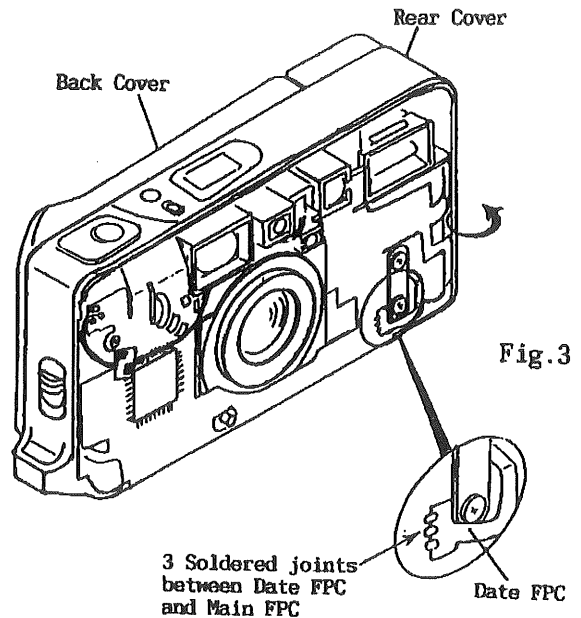
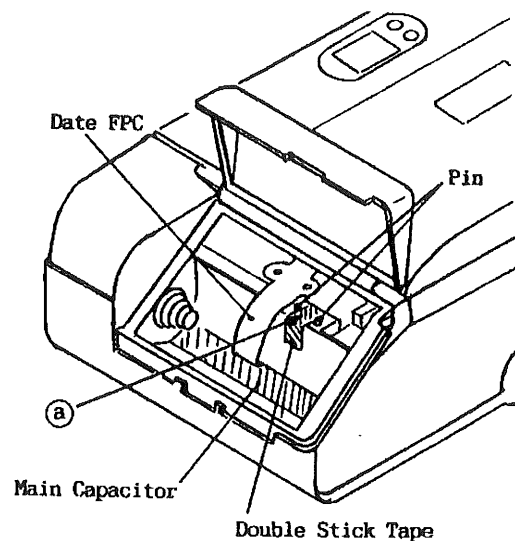

Fig.3
Fig.5
- 1) Unsolder the 3 soldered joints between the Date FPC and the Main FPC. (See Fig.3)
- 2) Remove the Rear Cover Setscrew (69214079) ⑧.
- 3) Open the Back Cover (D) Ass'y and remove the Rear Cover Setscrews (69114076) x 3 ⑨.
- 4) Open the Battery Cover and remove the Rear Cover Setscrew (69114076) ⑩.
- 5) Peel off the portion ① of the Date FPC. (The portion ② of the Date FPC is fixed with Double Stick Tape.) (See Fig.5)
- 6) Remove the Rear Cover Ass'y and the Back Cover (D) Ass'y with the Battery Cover together in the direction of the arrow. (See Fig.3)